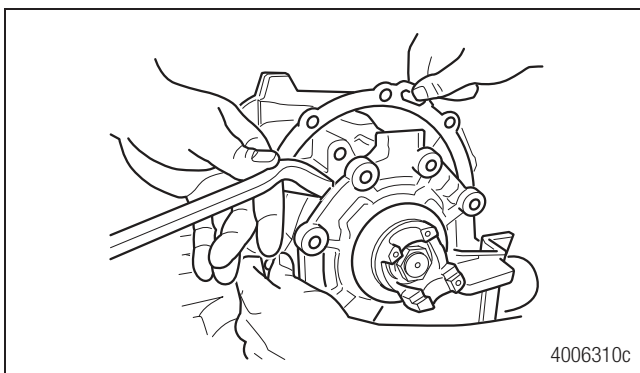

Figure 5.16
6. Use a pry bar and mallet to loosen the input cage cover and internal pump assembly, if equipped. Figure 5.16.
7. Remove the shim pack. Figure 5.16.